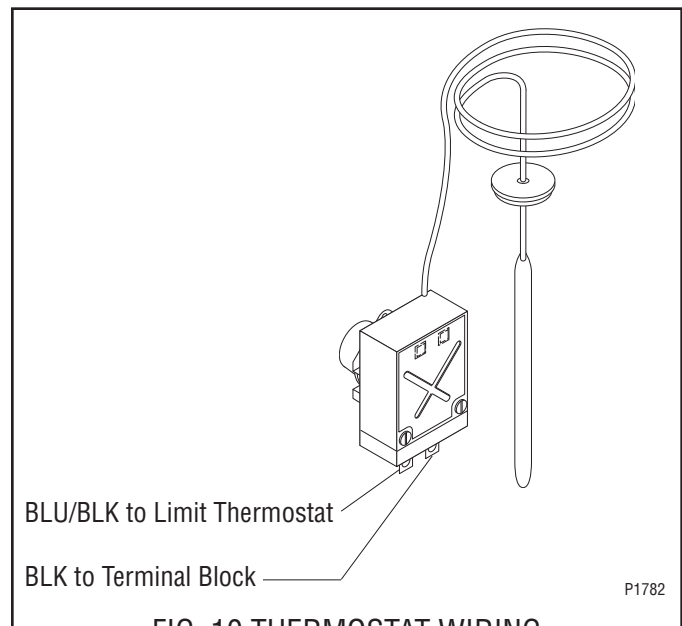

FIG. 10 THERMOSTAT WIRING
8. Refer to FIG. 10 when reconnecting the wires.